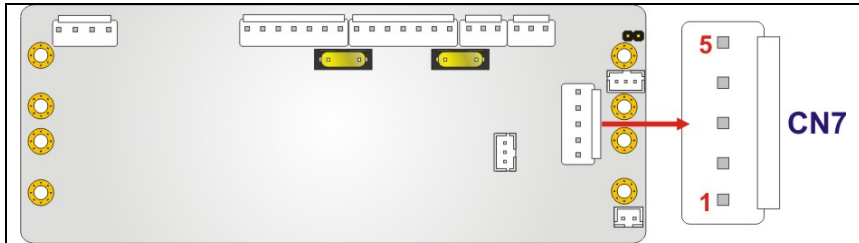

Figure 4-12: SBC Main Power Connector Location
- CN Location:** See **Figure 4-12**